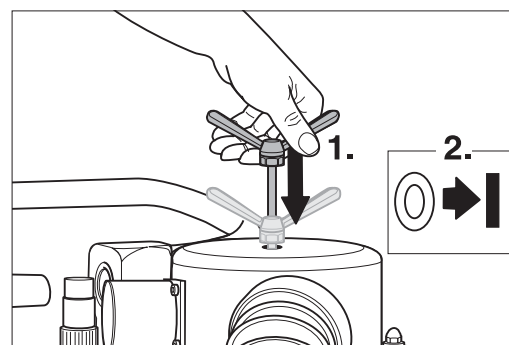

Fig. 23 Push the cleaning slide as deep as possible into the filter unit (1.). Then you can turn the machine back on again (2.).
- 5 Once you have finished cleaning, make sure the cleaning slide is pushed as deep as possible back into the filter unit (Fig. 23). Otherwise the filter will be burdened with more dust than necessary and will have to be cleaned more often.